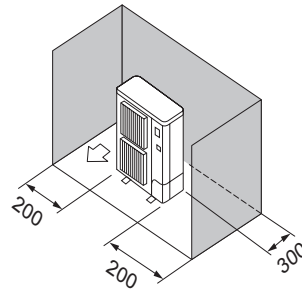

Fig. 4-8
- ③ Obstacles at rear and sides only (Fig. 4-8)